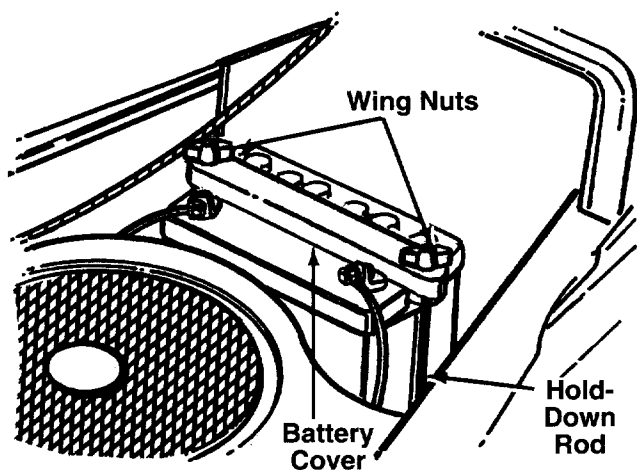

FIGURE 14.
4. Place the black plastic battery cover in position over the hold-down rods. Secure with wing nuts. See figure 14.